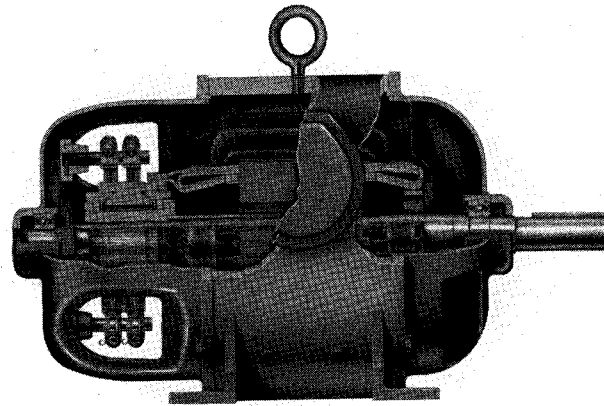

FIG. 3. Cutaway View Showing Type SK Construction Details
**Bearings.** (See Fig. 3). The bearings used in Life-Line machines are packed at the factory with the proper amount of lubricant; no further lubrication is needed for the normal life of the bearings.
Bearings from several suppliers are used in Life-Line machines; for a given size machine, the bearings of all suppliers are interchangeable. The details of the seal construction vary somewhat depending upon the bearing manufacturer, but each type of seal is equally effective in keeping out foreign material and retaining the lubricant. A typical seal construction is shown in Fig. 3.